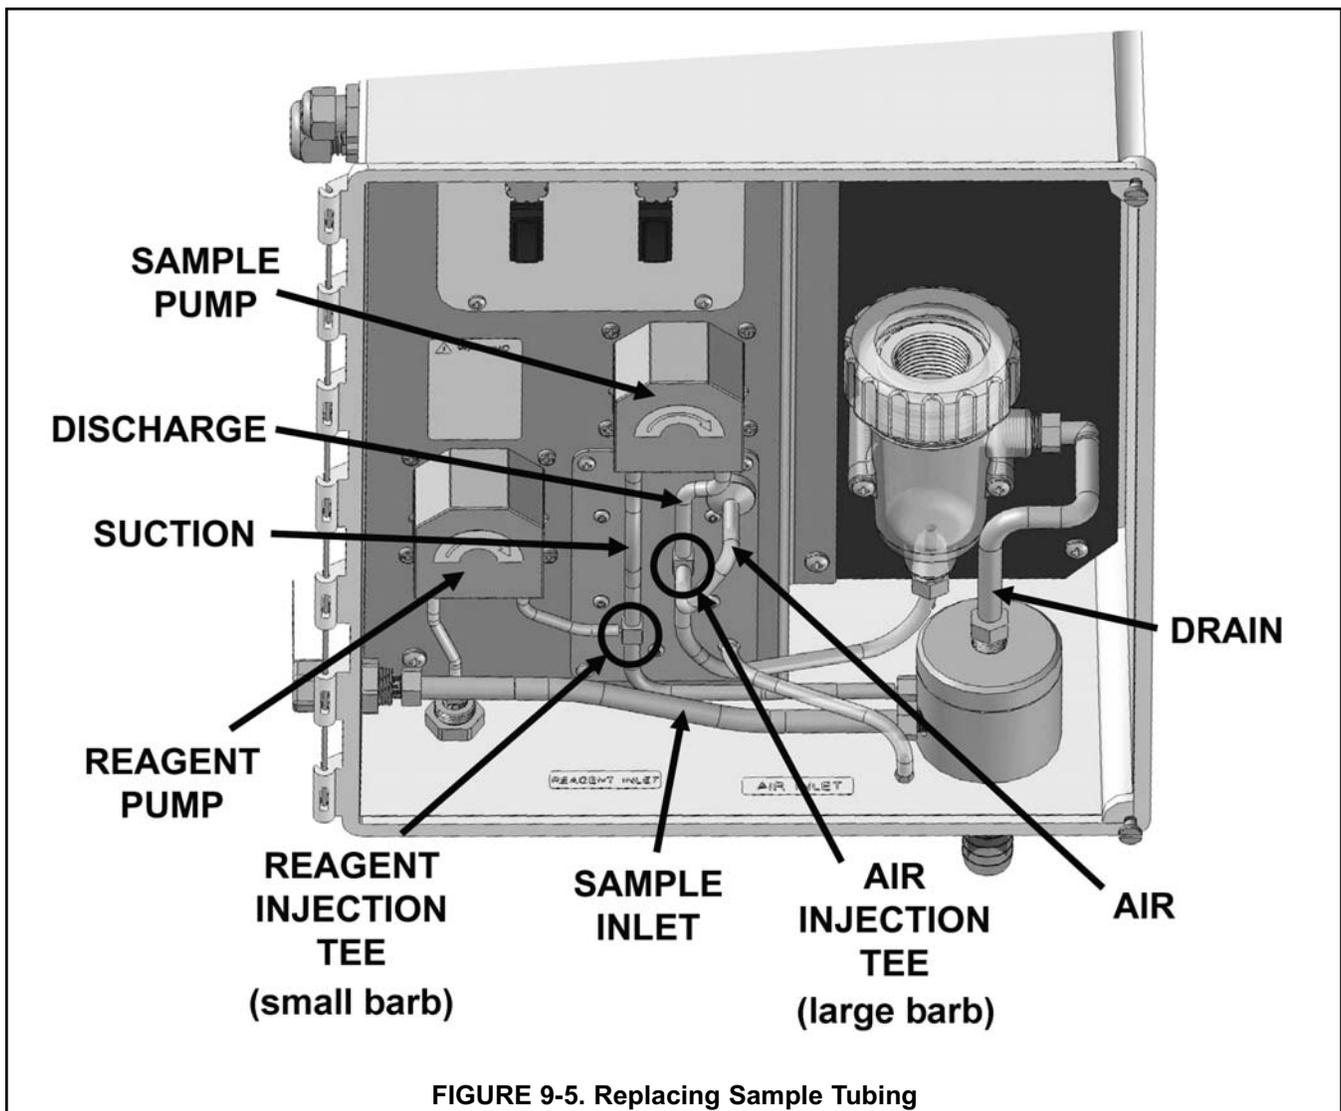

FIGURE 9-5. Replacing Sample Tubing
1. Sample tubing is shown in Figure 9-5.